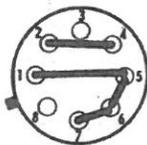

Figure 5
- (1) Insert a plug P-2 in accessory socket SO-2 which is jumpered as shown in figure 5